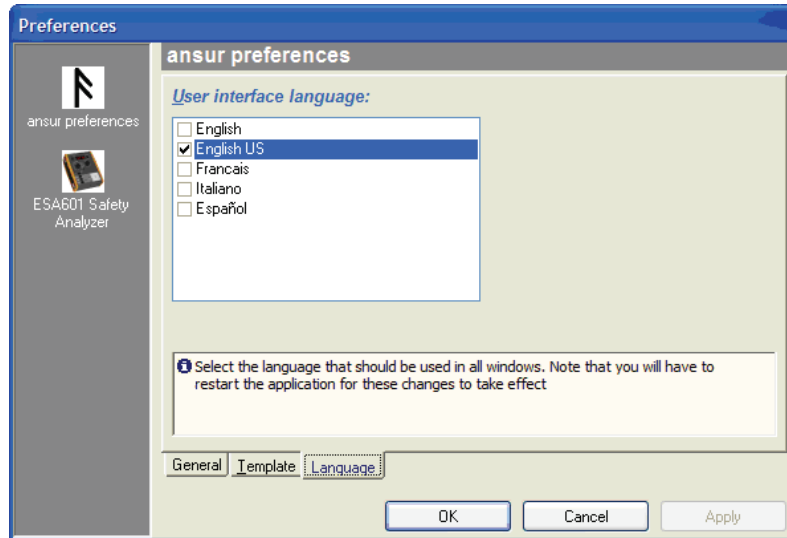

Figure 2-6. Selecting AAMI Terms
3. Select English US from the list. See Figure 2-6.